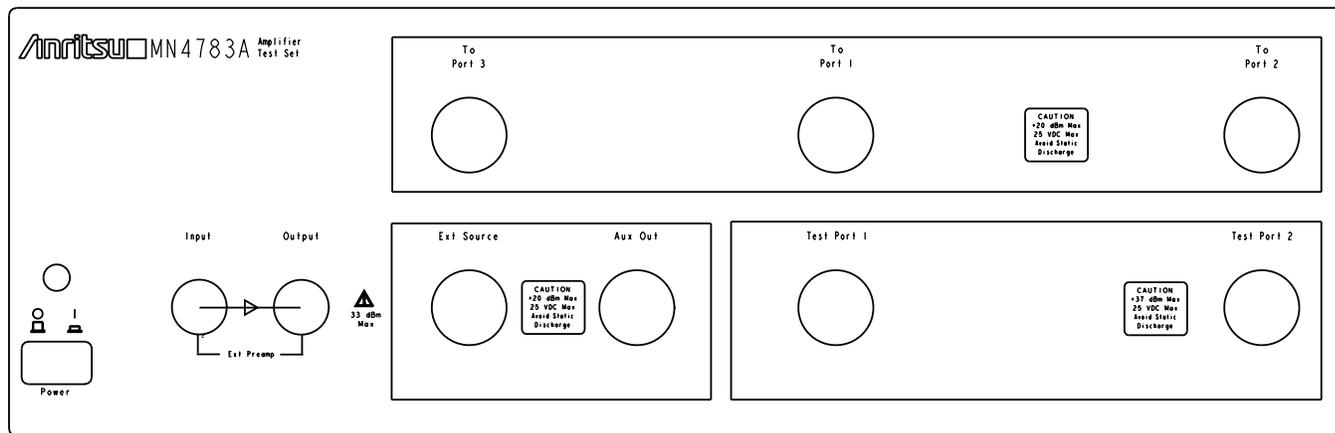
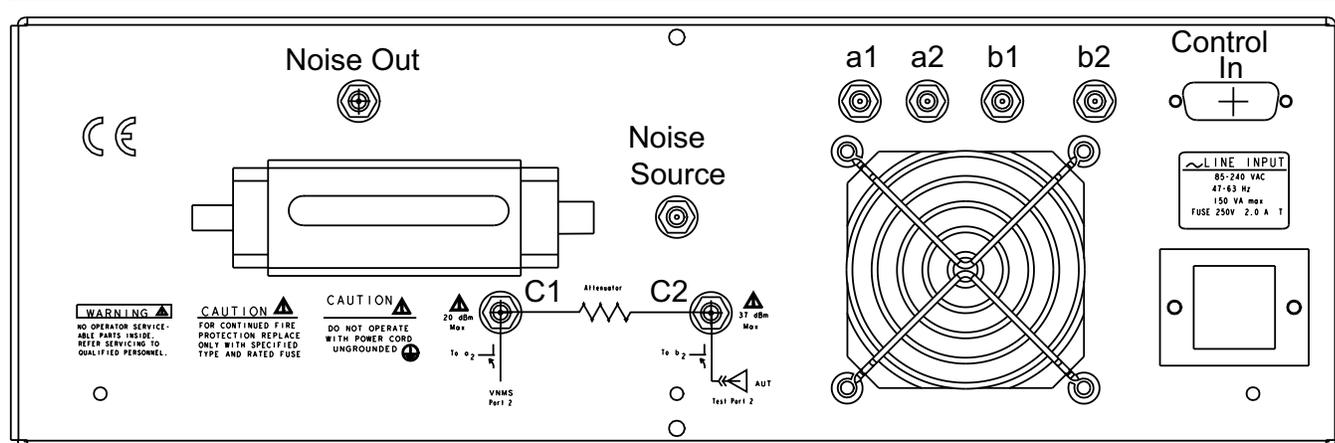

Figure 4-3. Test Set Front Panel
Figure 4-4. Test Set Rear Panel
Step 2. Connect cable A, cable B, and the terminations to the connector ports as indicated in Table 4-3. Refer to Figure 4-3 and Figure 4-4 (following page) for the connector locations.